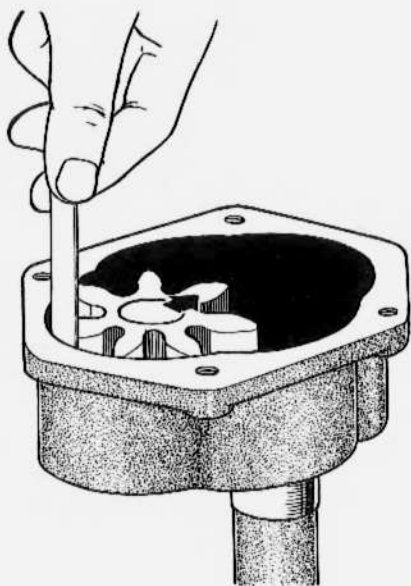

Figure 34 - Checking Idler Gear and Shaft Clearance
(2) Measure outside diameters of pump shaft and idler gear shaft. If shaft is worn such that diameter is less than 13.9 mm, replace shaft as outlined in subparagraph c below.
(3) Install idler gear on idler gear shaft. Press gear toward center of pump body and measure clearance between gear teeth and pump body with feeler gage (Fig. 34). If clearance exceeds 0.2 mm, replace gear.